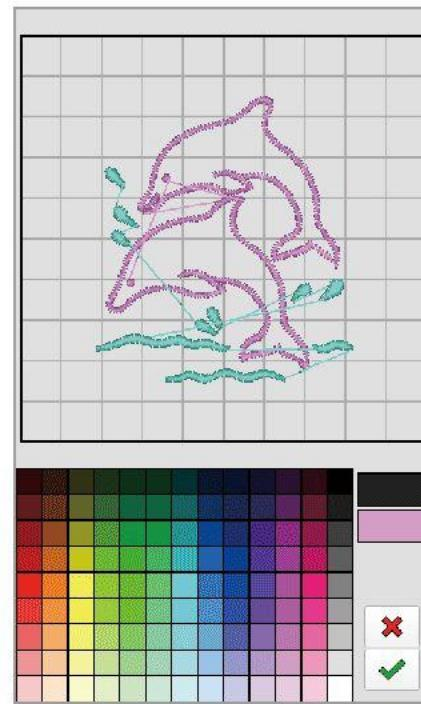
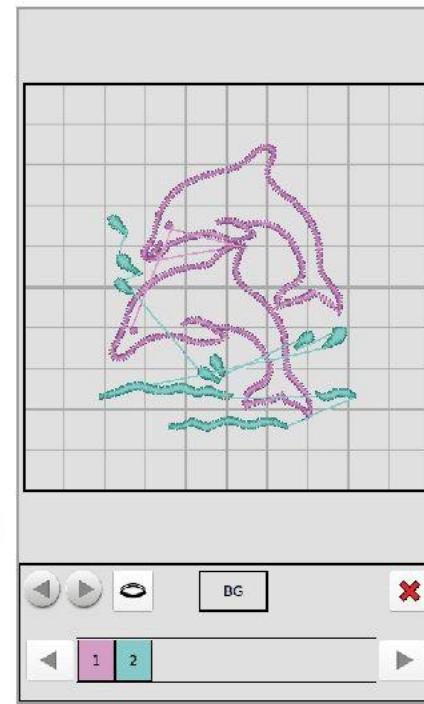

图7 Figure 7
图8 Figure 8
② 点击两次需要更换的颜色，进入图7界面并点击需要更换的颜色，按确认进入图8界面，然后点击返回键
Click twice the color to be changed to enter the interface in Figure 7, and click the needed color and press confirmation to enter the interface in Figure 8, then click the return key.